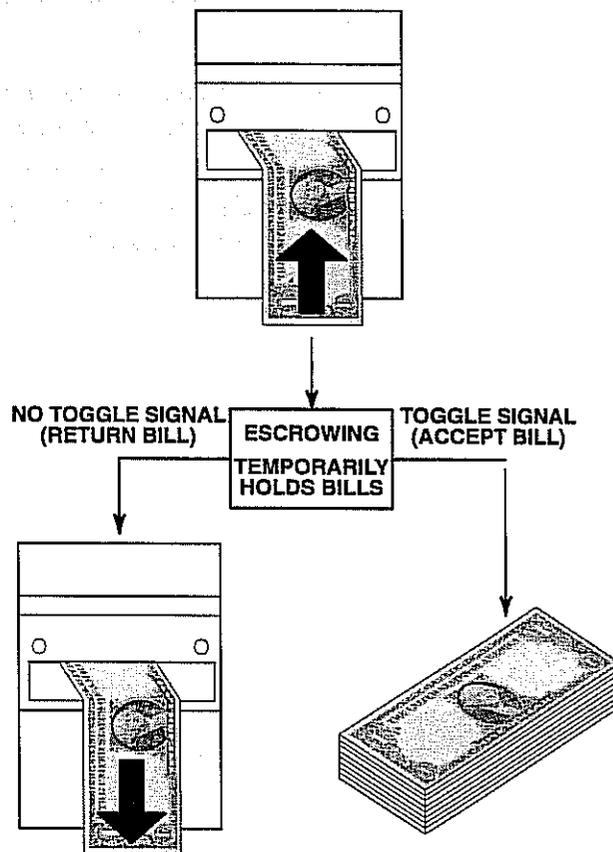

Figure 1-3. Escrowing.
- **Escrowing** - Escrowing is the period of time in which the microprocessor determines a bill's validity after it has been inserted into the validator and scanned. If the bill is found to be valid, it is accepted and transported to the stacker assembly for storage. If it is determined that the bill is invalid, the bill is returned (see Figure 1-3).